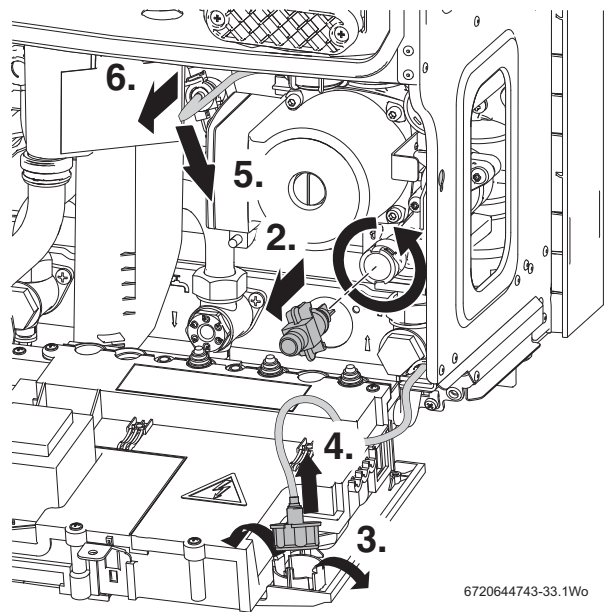

Fig. 123
- ▶ Refer to figure 123
3. Pry the lugs apart (3) securing the pressure gauge to the fascia.
4. Remove the gauge (4) taking care not to damage or kink the capillary.